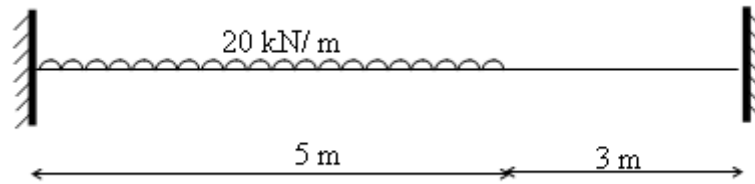

Figure 4:
6. Find the position and magnitude of the maximum deflection of a steel fixed beam loaded as shown in the Figure 4. Assume the second moment of inertia of the cross-section of the beam is $400 \times 10^6 \text{ mm}^4$. [15]